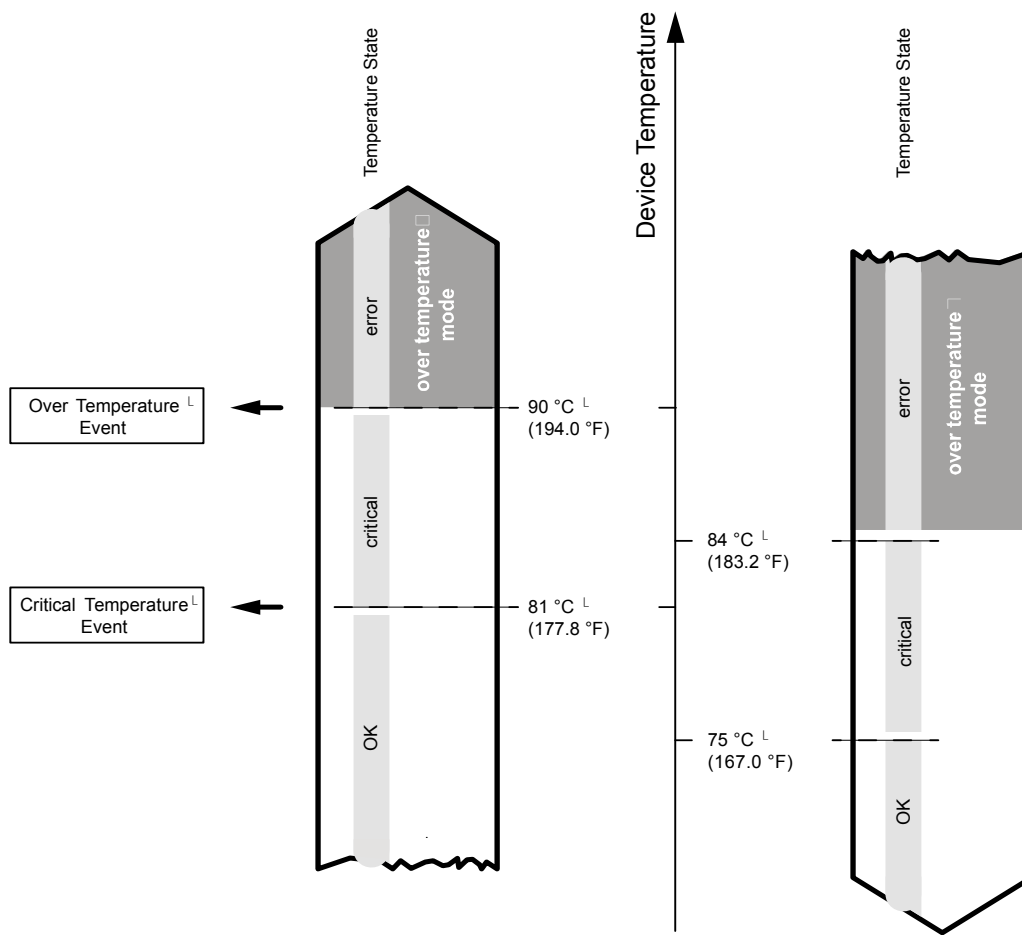

Fig. 36: Over Temperature Behavior and Related Mechanisms According to Heating and Cooling Paths
The mechanisms are activated at different internal temperatures, depending on whether the camera follows a heating or cooling path. The mechanisms are illustrated for both paths in Figure 36 and described in detail below.
- The parameter values for the TemperatureState parameter can be "normal", "critical", and "error". For information about their meanings, see Figure 36 on page 62 and the related descriptions.